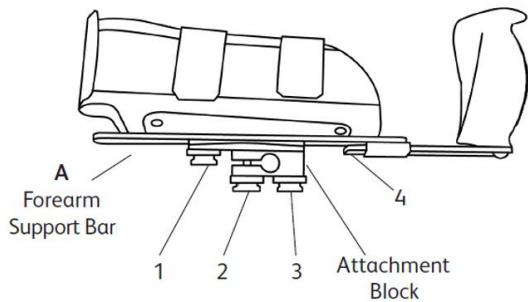
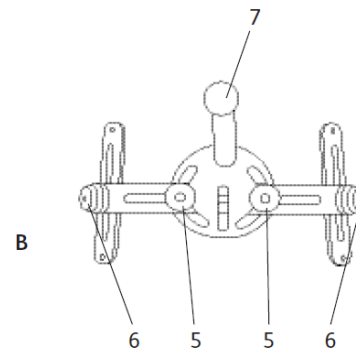

Figure 2
Figure 3
1. Familiarize yourself with the adjustment capabilities before applying device to the patient. See **FIGURE 2** and **FIGURE 3** for a diagram of adjustments.